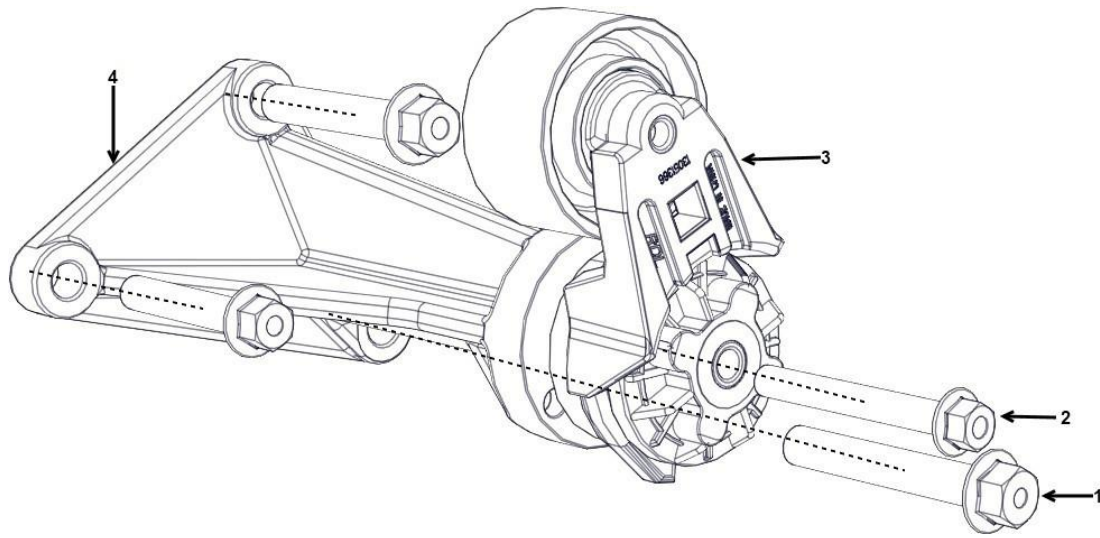

Figure 17. Right-Hand Automatic Belt Tensioner Assembly
3. Insert the right-hand automatic belt tensioner and torque down the remaining bolts to the right-hand water pump bracket. (Refer to Figure 17.)